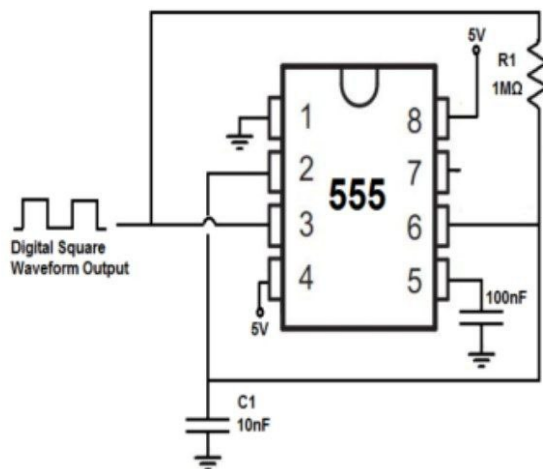

Fig. 1. 555 timer circuit
- 1) connect the 555 timer circuit to generate a Square Waveform Output as shown in Fig. 1.